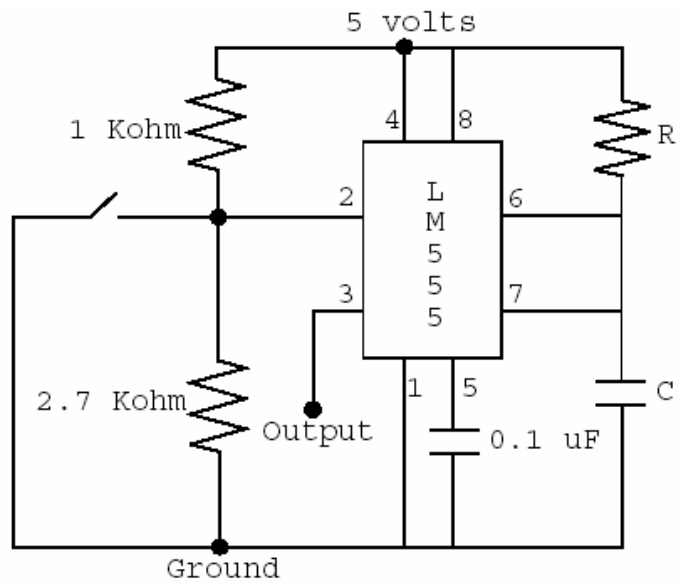

Figure 4.
- F-4. Connect the circuit in Figure 4. Make R and C such that the one-shot time period is at least as long as the maximum switch settling time. Again cycle the switches, sketching the output waveform and noting if any bouncing is occurring.